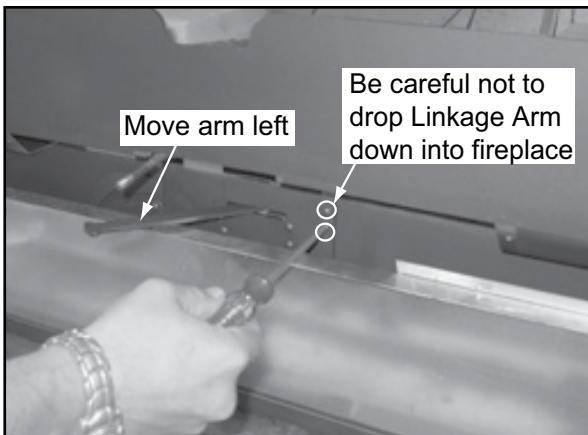

Figure 4.15
- Remove 2 screws from timer linkage upper arm. Be careful NOT TO DROP arm in bottom of fireplace. Figure 4.15.